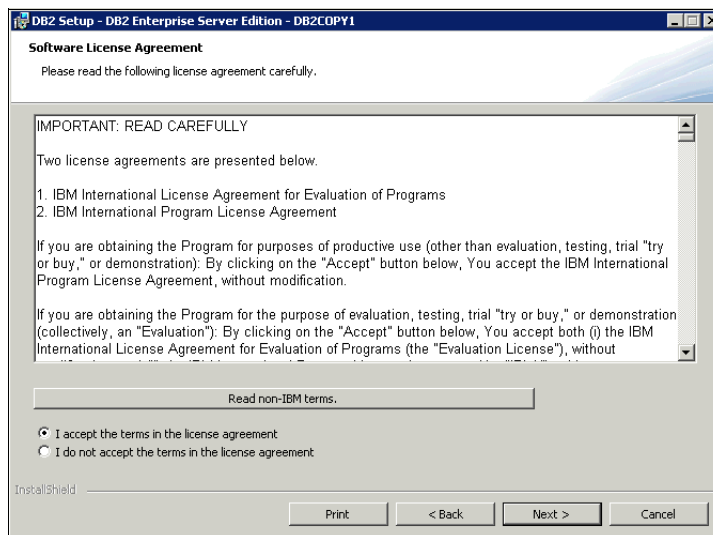

Figure 12-5 License agreement
4. Read the license agreement; click **I accept the terms in the license agreement** (Figure 12-5).